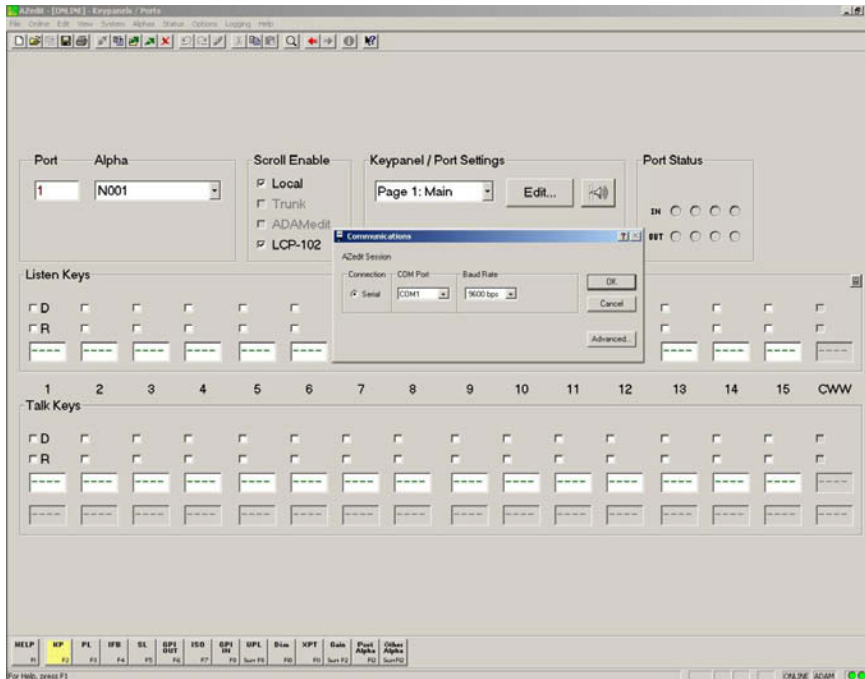

Figure 1
PROCEDURE: (see figures 1 & 2, AZedit Screen Views)
- Select "ADVANCED" – (must be connected to matrix to see this screen, see Figure 1.)